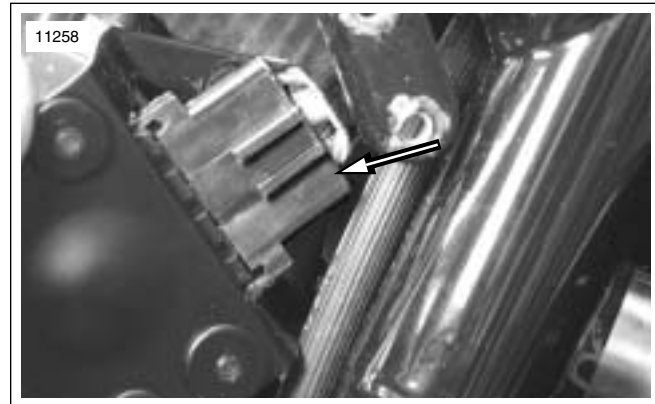

Figure 8-10. Ignition Switch Connector (switch turned over showing back side)
4. See Figure 8-10. Carefully release latching tabs securing wiring harness connector to back of ignition switch. Pull connector out of ignition/light switch socket.